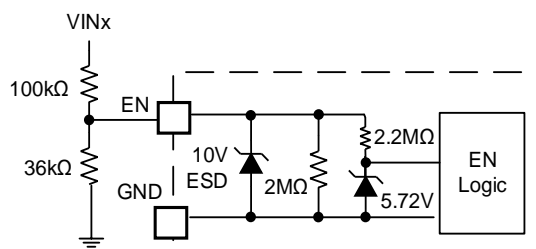

Figure 4: EN Circuit with a 10V Zener Diode
The MP4255 offers enable (EN) control via the EN pin, which has two different EN thresholds. If the EN voltage ( $V_{EN}$ ) exceeds 0.7V, then VCC is enabled. If  $V_{EN}$  exceeds 1.6V, then the IC starts up and begins normal operation. EN is clamped internally via a 10V Zener diode (see Figure 4).